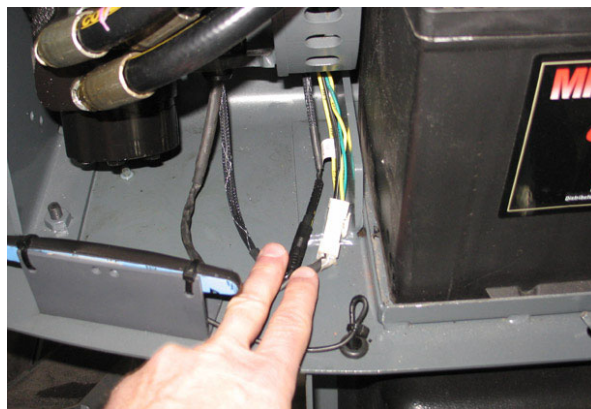

FIG. 1
1. Disconnect the steering pod cables from the main wire harness. (Fig. 1)